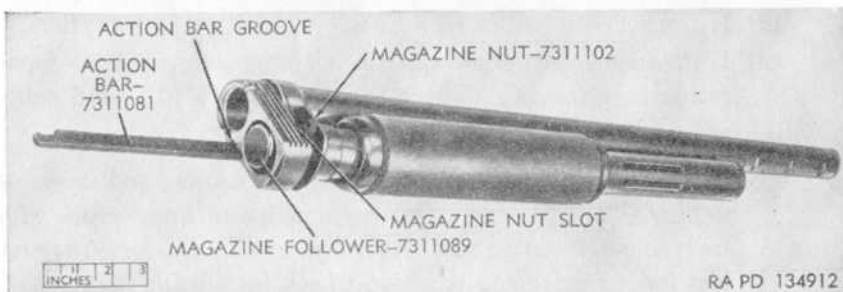

Figure 36. Barrel, magazine, and action bar group for both Stevens shotguns.
a. Removal and Disassembly (figs. 36 and 37).
- (1) Unscrew the magazine plug screw from the barrel lug.
- (2) Pull magazine slightly away from the barrel to disengage magazine plug from barrel lug. Then ease group forward, away from the pressure of the magazine spring, and withdraw magazine and action bar group from the barrel.
- (3) Magazine plug, spring, and follower will now drop out of the tubular magazine.
- (4) Unscrew magazine from magazine nut.
- (13) If either the barrel lug or the barrel is beyond repair, replace the brazed barrel (DEPOT MAINTENANCE ONLY).
d. Assembly and Installation (figs. 36 and 37).
- (1) Screw and tighten rear forend nut on action bar tube until internal slot in the nut aligns with action bar rivet holes on tube.
- (2) Aline action bar rivet holes with those in tube by placing the rivet hole end of the action bar, with countersunk end of holes facing upward, through slot in the rear forend nut and over holes in tube. By retaining the countersunk end of rivet holes upward on action bar, the proper assembly of the action bar slot is assured. Insert action bar rivets through both bar and